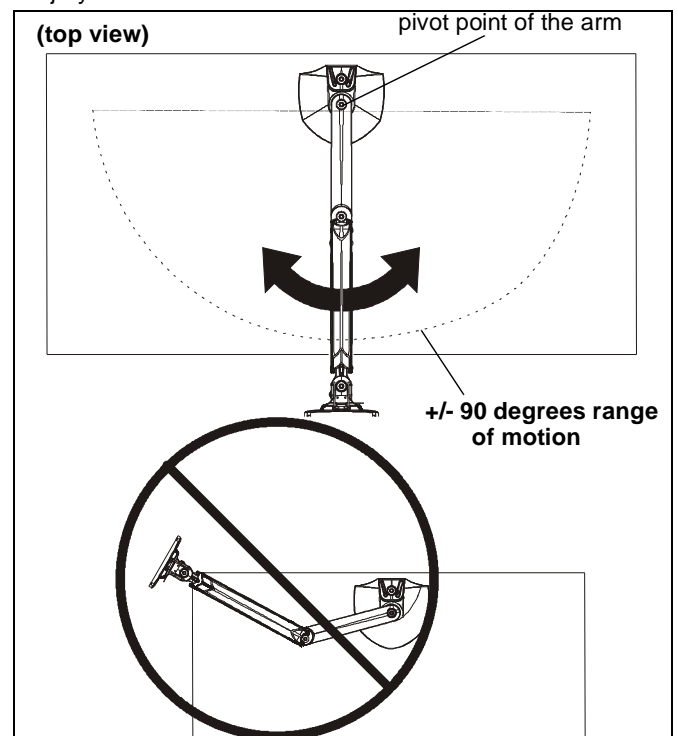

Figure 23
1. Adjust arm angle as desired up to 90 degrees in either direction. (See Figure 23)